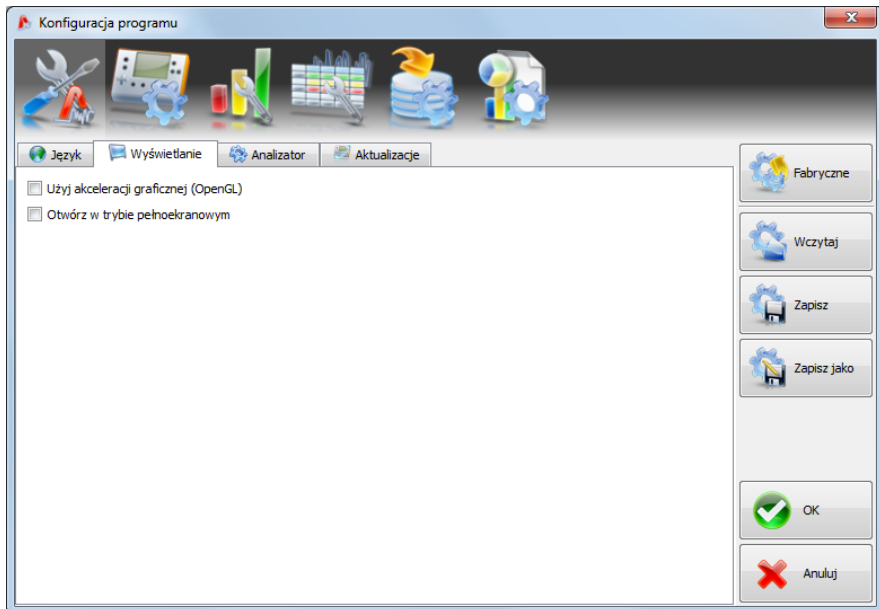

Fig. 73. Preferences main window.
You can change the default application settings after choosing from the software menu **Options** → **Software configuration** (Fig. 73).
- **Display** tab (Fig. 73):